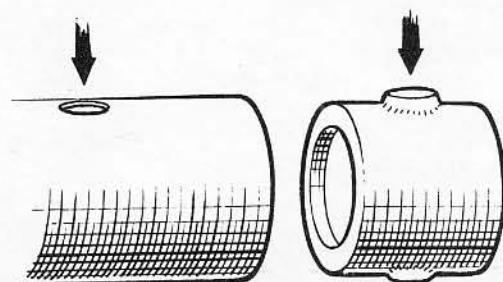

Fig. 17 Arrows indicate outer column bush locations
- Fit the bush assemblies to the outer column so that their locating lugs engage with the holes provided (Fig. 17) and the metal reinforced end of each bush is towards the lower end of the column (Fig. 18).